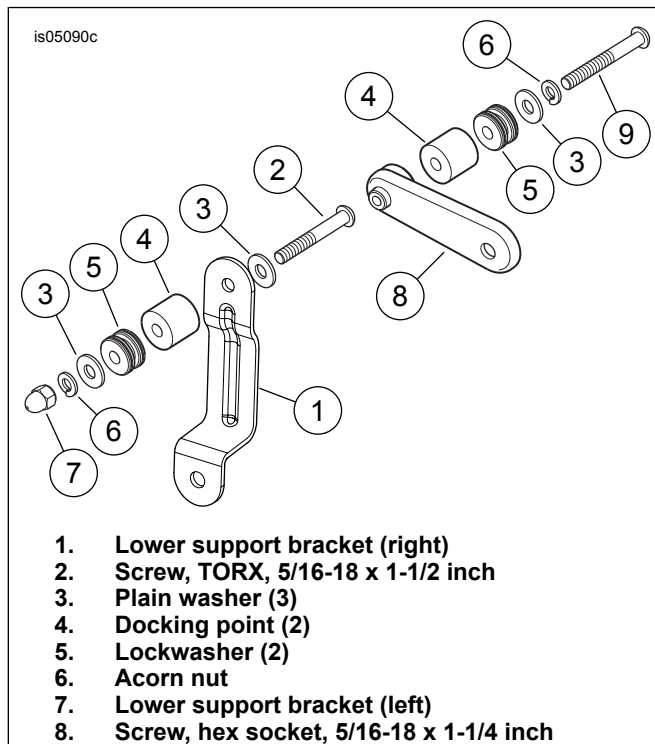
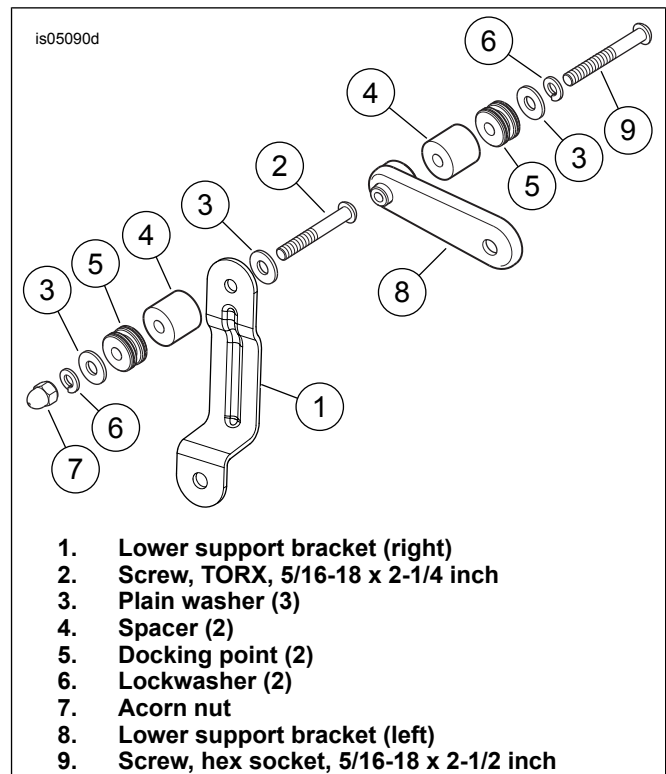

Figure 2. Lower Support Bracket Assembly (Saddlebags Only)
Figure 3. Lower Support Bracket Assembly (Multiple Detachables)
1. See Figure 2. Get a plain washer (3) and a 5/16-18 x 38.1 mm (1 1/2 in) long TORX® screw (2) from the docking point kit. Install the washer onto the screw threads, and insert the screw through the upper hole in the right lower support bracket (1) as shown.
2. Slip next a docking point (4), then a second plain washer and a lockwasher (5) over the screw threads.
4. Install an acorn nut (6) onto the threads, and tighten to 16.3–24.4 N·m (12–18 ft-lbs).
1. See Figure 2. Get a 5/16-18 x 32 mm (1 1/4 in) long hex socket screw (8) from the docking point kit. Slip first a lockwasher (5), then a plain washer (3) and docking point (4) over the screw threads.
3. Install the screw into the threaded hole in the left lower support bracket (7), and tighten to 16.3–24.4 N·m (12–18 ft-lbs).
1. See Figure 3. Select lower support bracket for your model. Orient the bracket as shown in Figure 2. Get a plain washer (3) and a 5/16-18 x 57.2 mm (2 1/4 in) long TORX screw (2) from the docking point kit. Install the washer onto the screw threads, and insert the screw through the upper hole (smaller hole) in the right lower support bracket (1) as shown.
2. Slip next a thick spacer (4), then a docking point (5), a second plain washer and a lockwasher (6) over the screw threads.
4. Install the acorn nut (7) onto the threads, and tighten to 16.3–24.4 N·m (12–18 ft-lbs).
1. See Figure 3. Get a 5/16-18 x 63.5 mm (2 1/2 in) long hex socket screw (9) from the docking point kit. Slip first a lockwasher (6), then a plain washer (3), a docking point (5) and a thick spacer (4) over the screw threads.
3. Install the screw into the threaded hole in the left lower support bracket (8), and tighten to 16.3–24.4 N·m (12–18 ft-lbs).